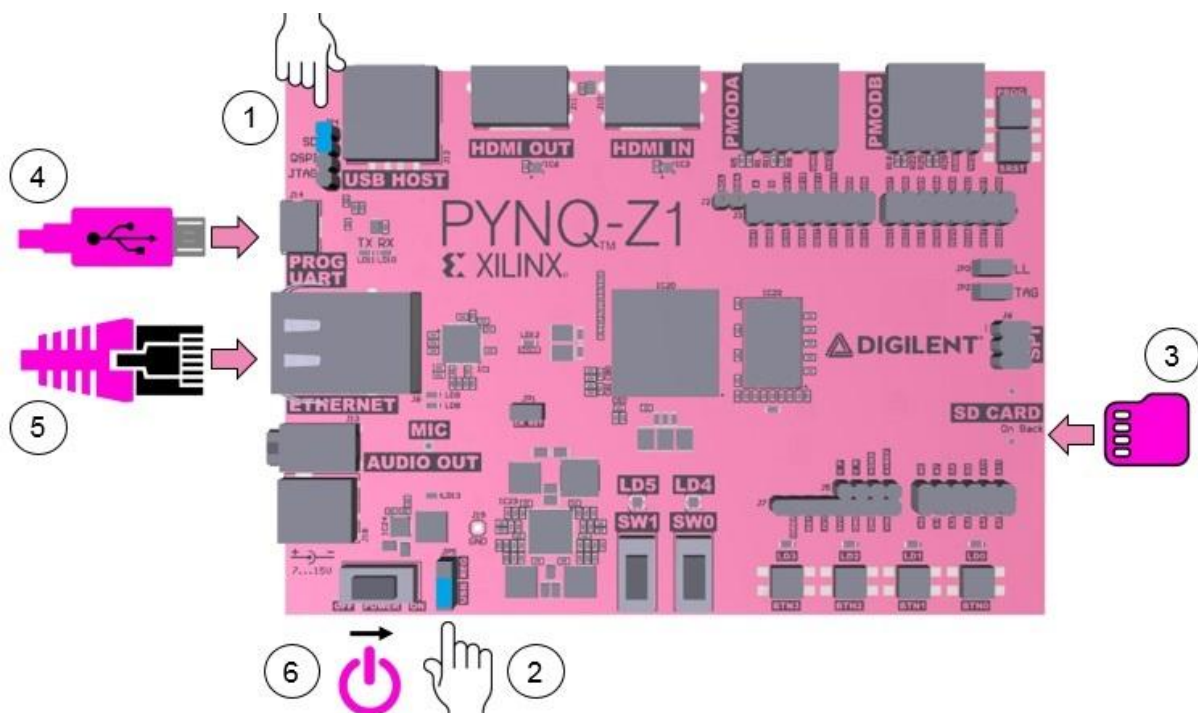

Figure 15. PYNZ-Z1 board
This project uses the PYNQ-Z1 Board from Digilent. It has the ZYNQ-7000 SoC device from AMD (formerly Xilinx) with a hardened ARM Cortex-A9 core directly connected to the Programmable Logic (PL). The communication with the board will be done via ethernet cable, which will be used to run Jupyter Notebooks in the processing system (ARM core). To be able to do this, the board needs to be set up as shown in Figure 15. For more information, see the board manual.